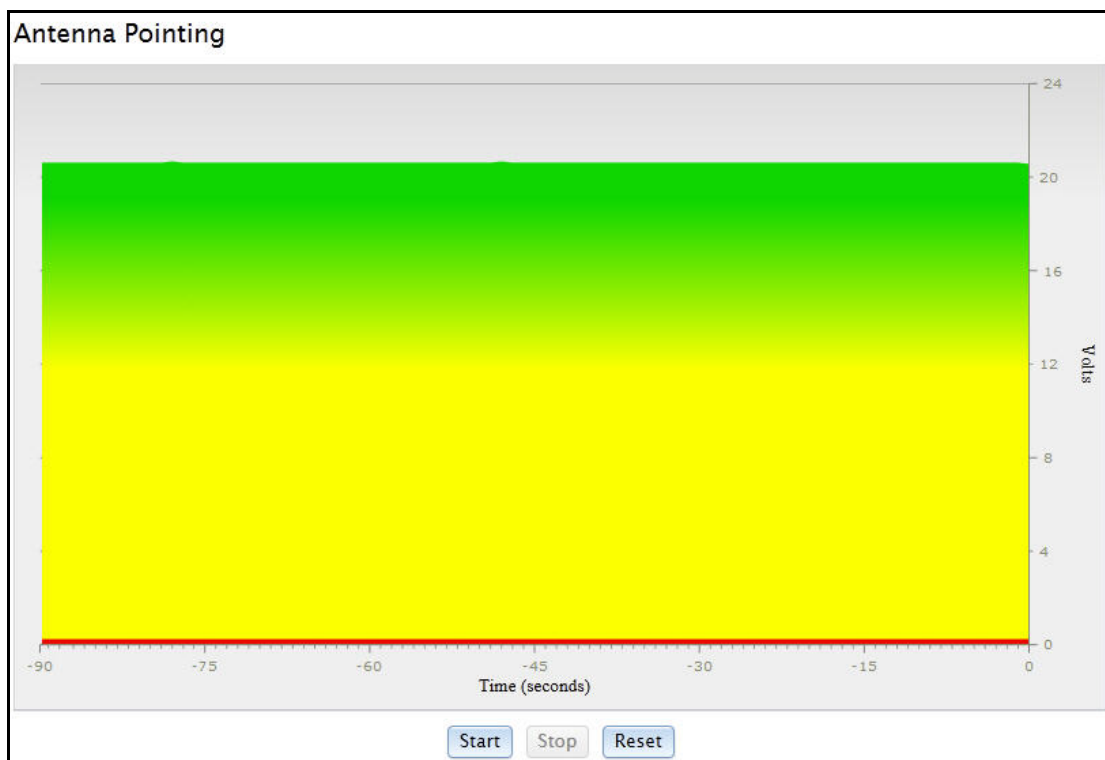

Figure 41. Web iSite: Antenna Peak Indication
9. Move the antenna in azimuth so as to maximize the level of the green bar and the PWM output voltage. See Figure 41.